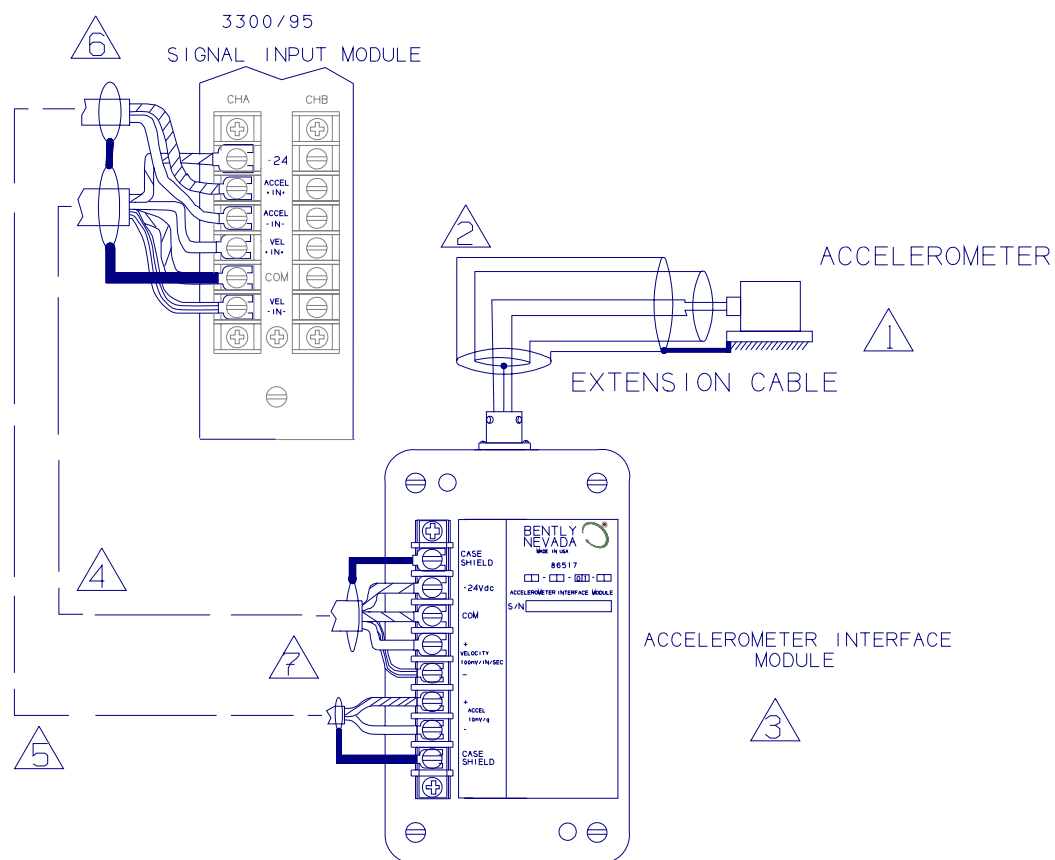
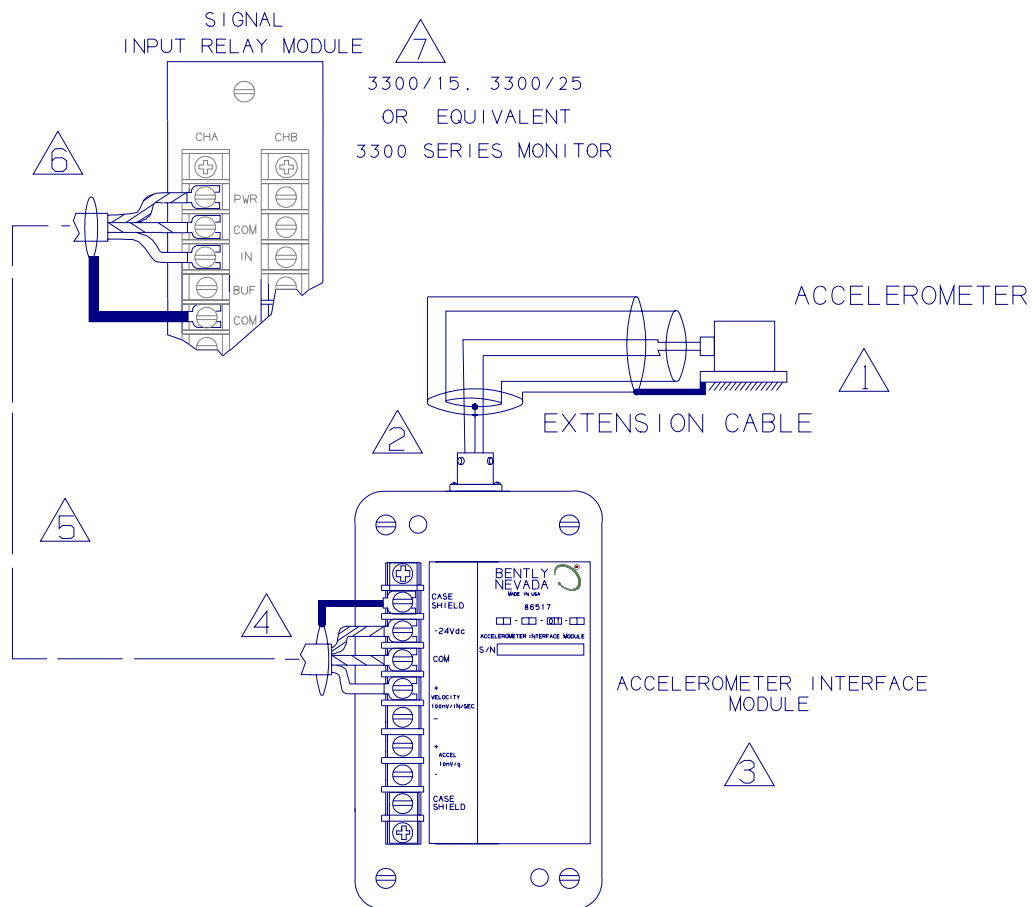
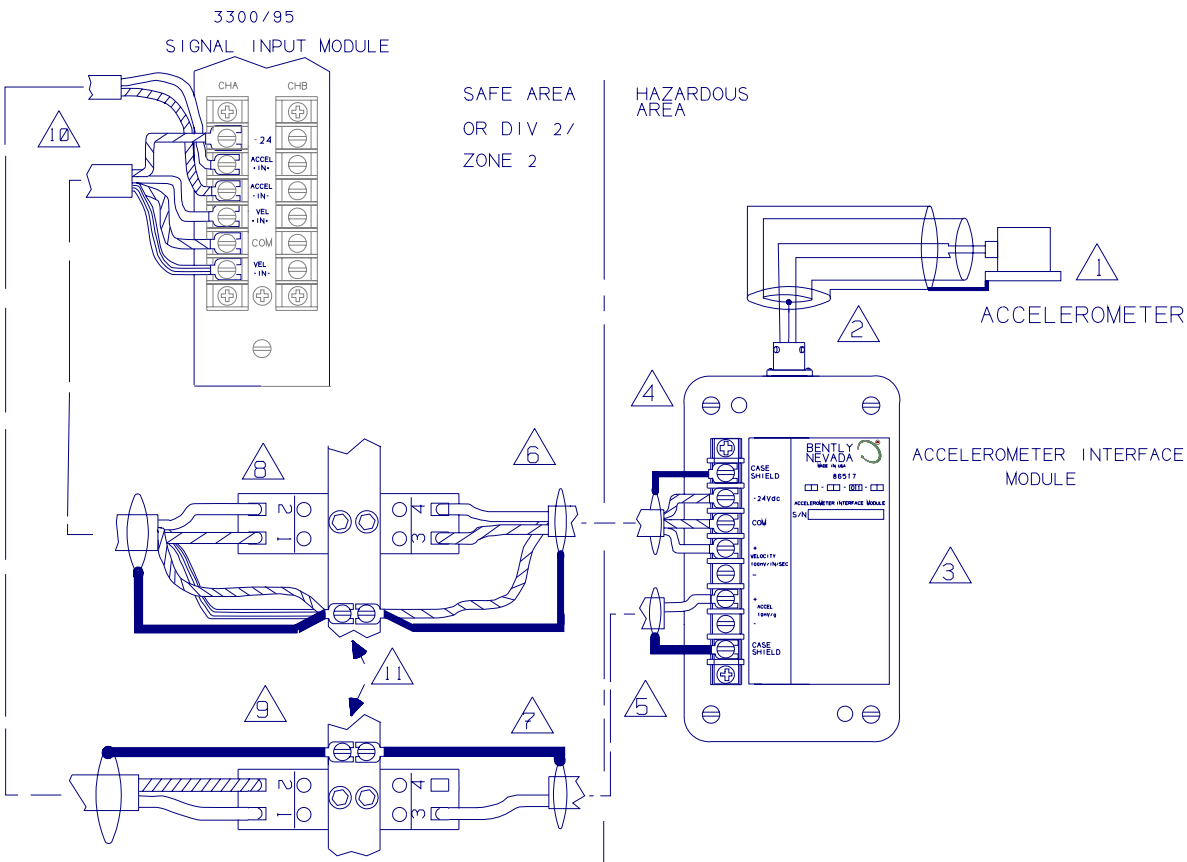

Figure 2.2 Field Wiring to 3300/95 Monitor without Barriers
Figure 2.3 Field Wiring to 3300 Monitor without Barriers
Figure 2.4 Field Wiring Interface Module to 3300/95 Monitor with Barriers
You must supply the field wiring from the interface module to the monitor unless you specifically request that Bently Nevada Corporation provide it. The 86517 interface module is intended to be used with the 3300/95 Filter Module/Vibration Monitor but may also be connected to certain specially modified 3300 series monitors such as the 3300/15 and 3300/25. Figure 2.2 shows the wiring connections to a 3300/95 monitor without barriers and Figure 2.3 shows the wiring connections to a 3300/15 (or equivalent) without barriers. Figures 2.4 and 2.5 show connections for Division 1/Zone 1 installations when external safety barriers are used.
**Notes for Figure 2.2**
**Notes for Figure 2.3**
**Notes for Figure 2.4**